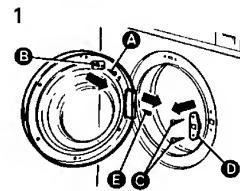

Fig. 1
- (Fig 1)
- Undo screw (A)
- Remove switch strike (B) and replace screw
- Remove hinge block screws (E)